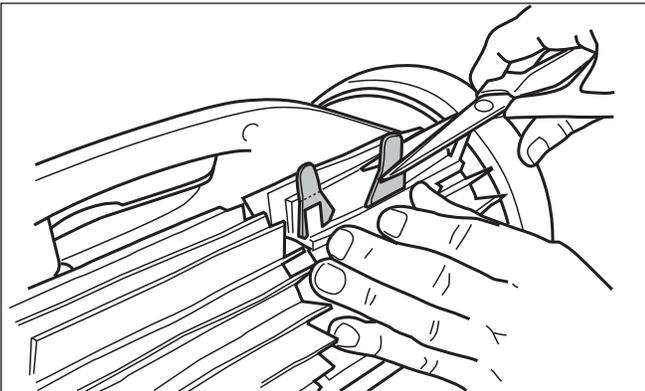

Figure 24. Cut Tabs
5. Use a pair of scissors to cut the tabs 3/4 inch from the heel so that they are no higher than the cleaning blade (Figure 24).